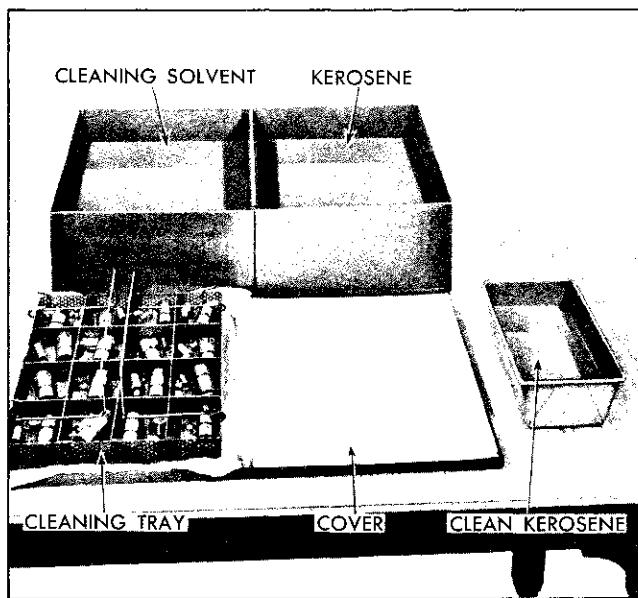

Fig. 6-81 Lifter Wash Tank and Tray
Wash tank and tray J 5821 (Fig. 6-81) is recommended for cleaning valve lifters. This tank should be used only for valve lifters and should be kept covered when not in use. All servicing should be done in an area removed from grinders or other sources of dust and foreign material.
3. Drain oil out of lifter body and place all valve lifter parts in separate compartment of tray from wash tank J 5821 (Fig. 6-81).
5. Wipe out tank cover and place tray of parts on cover in front of tank (Fig. 6-81). A shop towel under tray and clean paper on remainder of cover will enhance cleanliness.